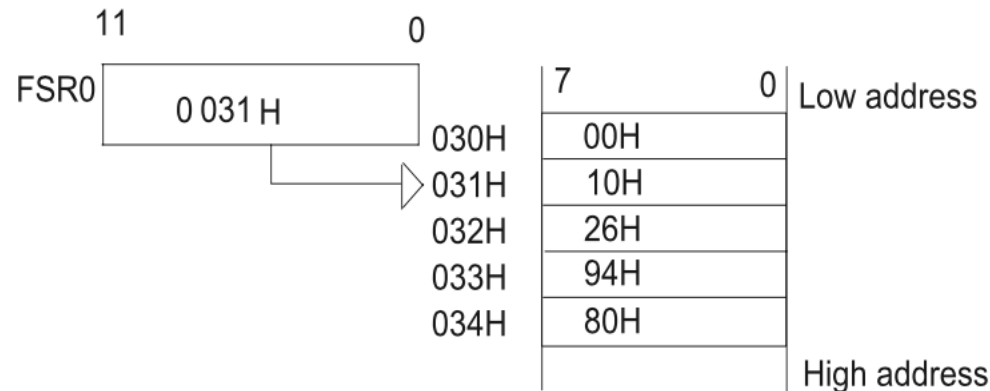

FIGURE 5.9 Illustration of Indirect with Postincrement Mode
- After execution of the instruction, CLRF POSTINC0, the contents of address 030H, and will be cleared to 00H, and the contents of FSR0 will be incremented by 1 to hold 0031H. This may be used as a pointer to the next data. This is depicted in Figure 5.9.